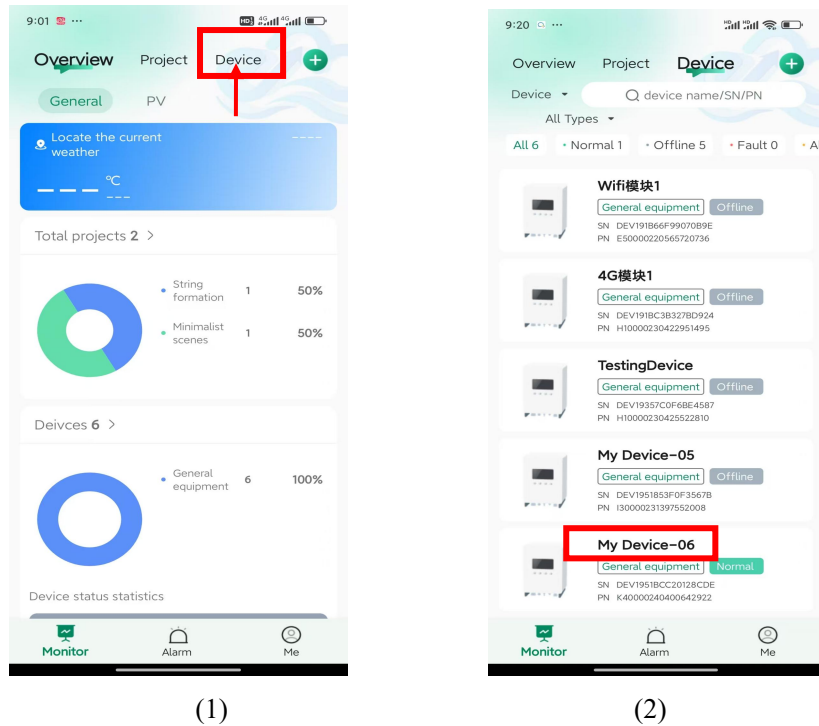

Figure 4.16 APP Overview interface
APP: Log into the APP and enter the overview interface, as shown in Figure 4.16 (1); Tap the "Device" option at the top to enter the device selection interface, as shown in Figure 4.16 (2); Tap the device name you want to view, for example, "My Device-06", then the device information screen is displayed.